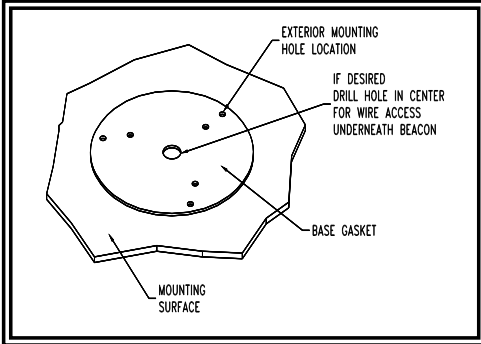

Figure 1
2. Using the base gasket as a template, mark the three mounting hole locations (see Figure 1).
4. A fourth hole may be drilled for wire access as shown in Figure 1, or the wires may be routed through the slot in the base for external access.